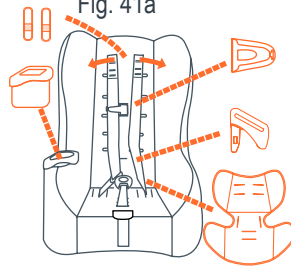

Fig. 41b
3. Remove harness cover, chest clip and buckle tongue on one side and set aside. Remove the cup holder and set aside (Fig. 41b).